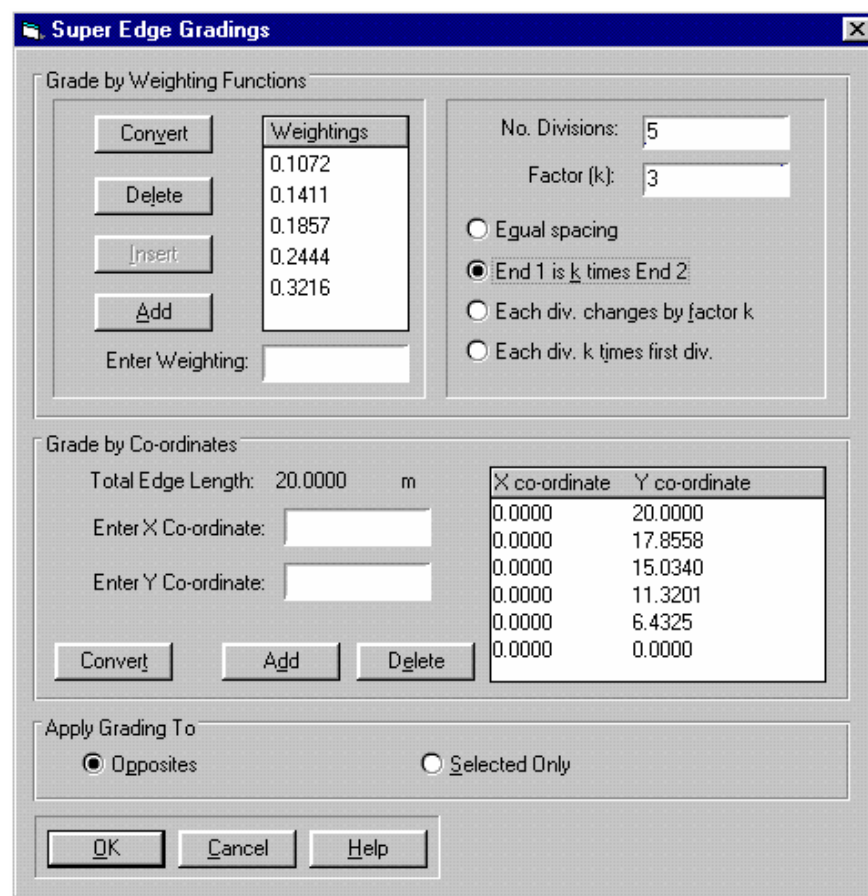

Figure 4-12: Defining Gradings for the Left-Hand Vertical Edge
- Step 12** Apply edge gradings to this edge, such that there are 5 divisions, with the division at the bottom of the edge being 3 times larger than the division at the top. The dialogue box should look like Figure 4-12.